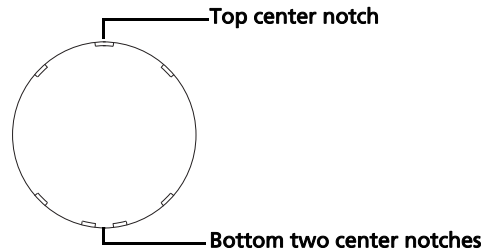

Figure 6
1. There are seven notches cut into the stippled side of the lens. Position the lens so the cluster of three notches is on top. The center notch of the cluster aligns with the spring clip on the lens retainer ring. See Figure 6.